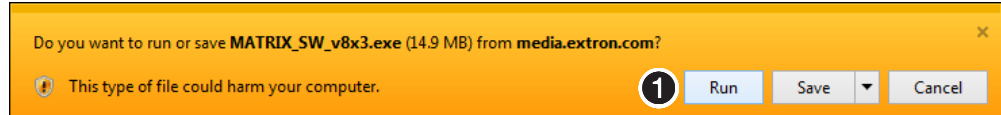

Figure 64. Download Warning and Confirmation
- Click **Keep me logged in** (❸) to eliminate steps 5 and 6 in future downloads.
- Enter your registered email address and click **Retrieve Password** (❹) if you have forgotten your credentials.
7. If your browser asks you to confirm that you want to continue, click **Run** or make a similar confirmation that you want to run the installation (see figure 64, ❶).
NOTE: Figure 64 may appear different or may not appear at all, depending on your Web browser choice and its security settings.